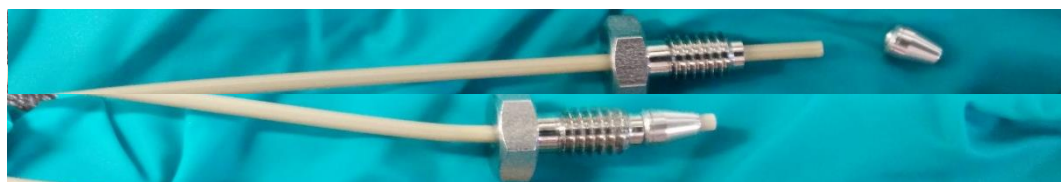

Figure 8
- c. Add threads, then the ferrule. Push the PEEK tubing all the way into the column, until the tefzel tubing hits PEEK tubing A (figure 8). **Before the ferrule is tightened to the tubing. Make sure the tubing is pushing against the screen.** This will reduce the dead volume in the system and prevent the column from leaking.